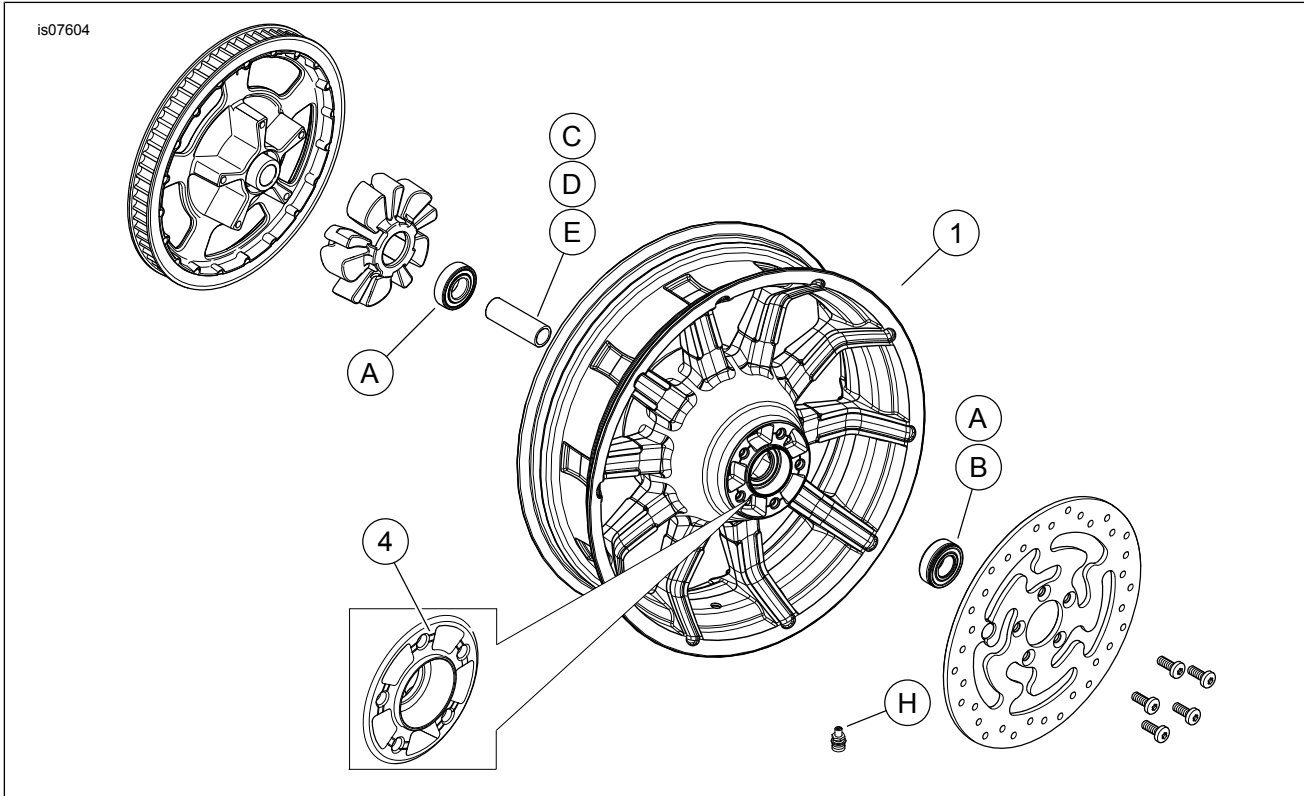

Figure 1. Service Parts: Impeller Rear Wheels
These kits include the custom wheel only. See Figure 1 and Table 2.
2. See Figure 1. Install valve stem assembly (H) on wheel. Refer to TIRES in service manual.